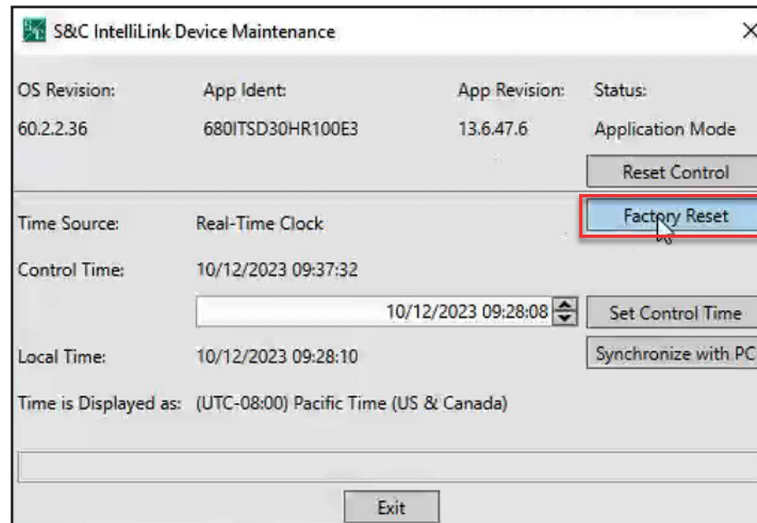

Figure 60. The Factory Reset button.
STEP 3. When the Device Maintenance dialog box opens, click on the **Factory Reset** button to launch the **Factory Reset** procedure. See Figure 60.